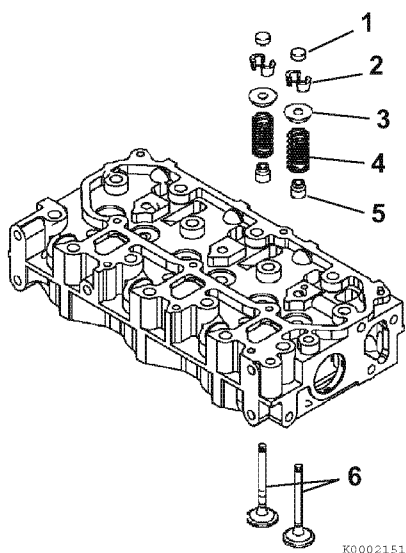

Figure 6-28
4. Install all the valves (6, **Figure 6-28**) in their proper location in the cylinder head.
5. Put the cylinder head on the workbench with the combustion side down to install the valve springs. Reinstall the valve spring (4, **Figure 6-28**) and spring retainer (5, **Figure 6-28**).
7. Insert the valve keeper (2, **Figure 6-28**) and slowly release the tension in the valve spring. Reinstall the valve cap (1, **Figure 6-28**). Repeat steps on all remaining valves.